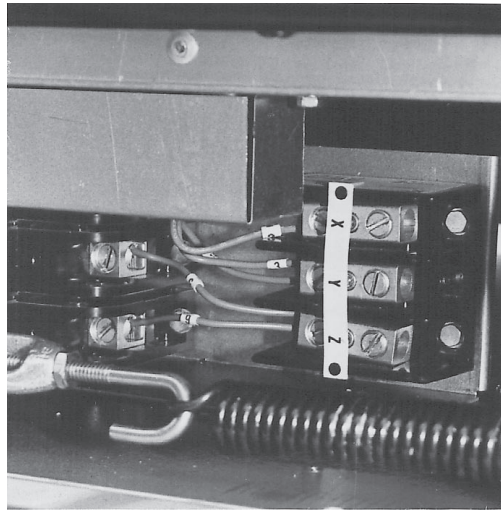

Fig. 1
2. Pull door spring slightly out with large screwdriver. (Fig. 1)